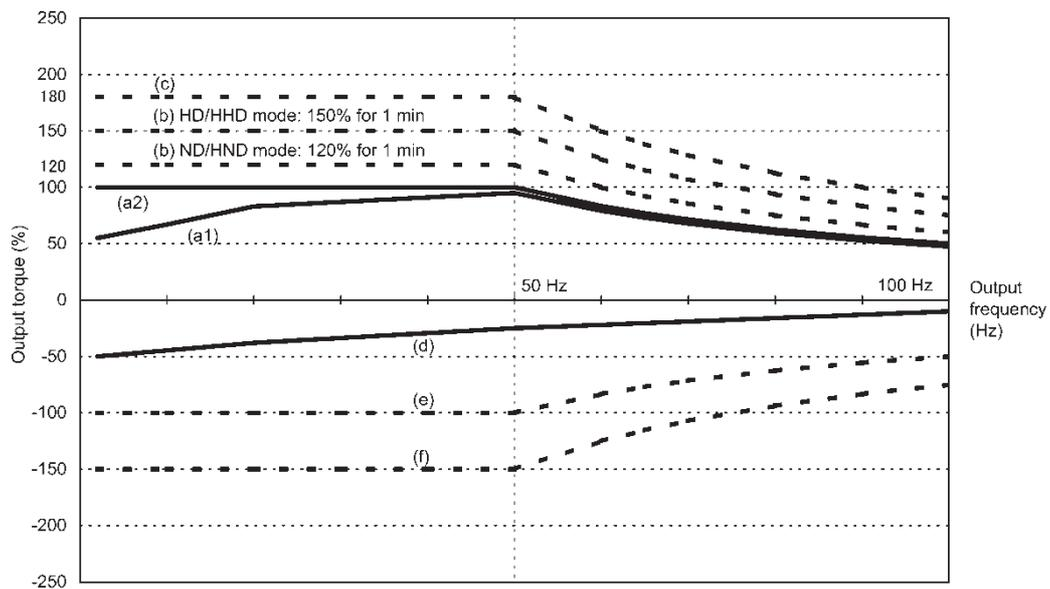
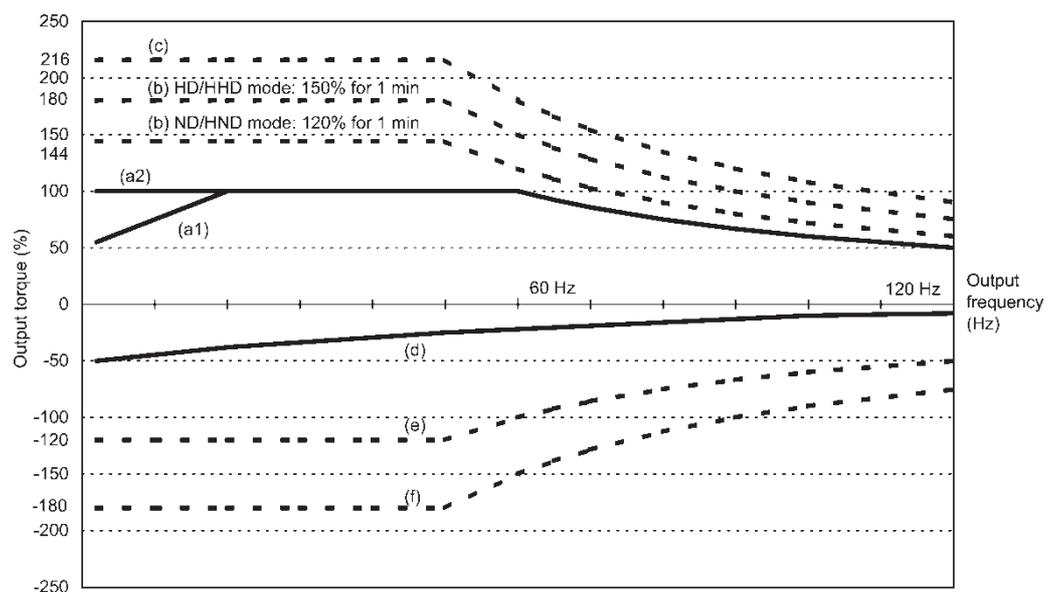

Figure 10.1-1 Output Torque Characteristics (Base frequency: 50 Hz)
Figure 10.1-2 Output Torque Characteristics (Base frequency: 60 Hz)
Figure 10.1-1 and Figure 10.1-2 graph the output torque characteristics of motors versus the output frequency for 50 Hz and 60 Hz base frequencies. The horizontal and vertical axes show the output frequency and output torque (%), respectively. Curves (a) through (f) depend on the running conditions.
(1) Continuous allowable driving torque
① Standard motor (Curve (a1) in Figure 10.1-1 and Figure 10.1-2)
② Motor exclusively designed for vector control (Curve (a2) in Figure 10.1-1 and Figure 10.1-2)
(2) Maximum driving torque in a short time (Curves (b) and (c) in Figure 10.1-1 and Figure 10.1-2)
(3) Starting torque (around the output frequency 0 Hz in Figure 10.1-1 and Figure 10.1-2)
(4) Braking torque (Curves (d), (e), and (f) in Figure 10.1-1 and Figure 10.1-2)